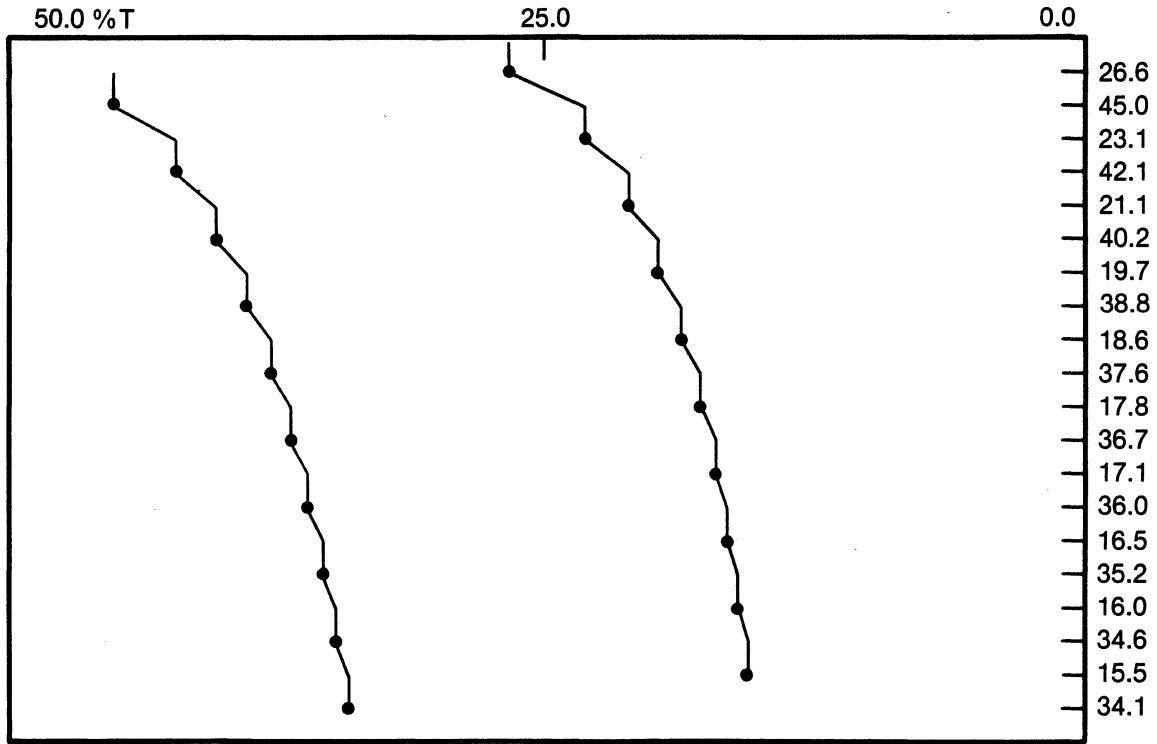

Figure 8-3. Plotter Output for Method 6, Cycle Number = 10. The photometric value for each measurement is printed along the right edge of the chart.
6. When replicate cycles are performed, the photometric axis is drawn only at the beginning of the first cycle. The data points collected at each wavelength are connected by a line segment at the end of each cycle. This allows the change in absorbance or transmittance at each wavelength to be followed easily from cycle to cycle. An example of a two-wavelength experiment, repeated for 10 cycles, is shown in Figure 8-3.